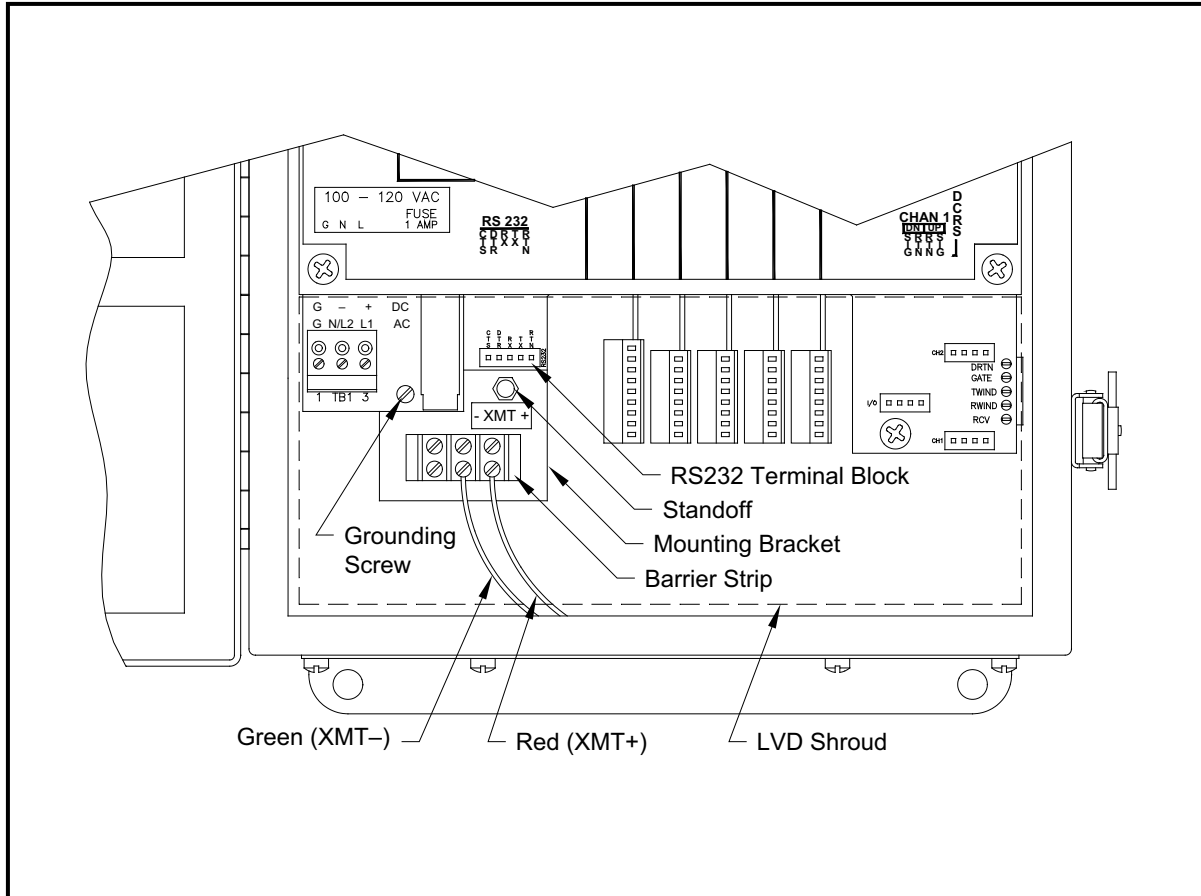

Figure 9: Interface Converter Mounting
A special bracket containing the serial interface converter and a three-terminal barrier strip is mounted inside the Model GM868, just below the RS232 terminal block (see *Figure 9* below). The standard **RS232** terminal block is wired to the input of the serial interface converter, and the RS485 output of the serial interface converter is wired to the barrier strip.
Standard factory wiring of the RS485 serial interface is configured for point-to-point wiring. That is, a single Model GM868 may be wired directly to a single personal computer. To connect the RS485 serial interface, refer to *Figure 9 on page 71* and complete the following steps:
3. Remove the serial interface converter *mounting bracket* by removing the standoff located just below the **RS232** terminal block and the grounding screw just to its left (see *Figure 9 on page 71*).